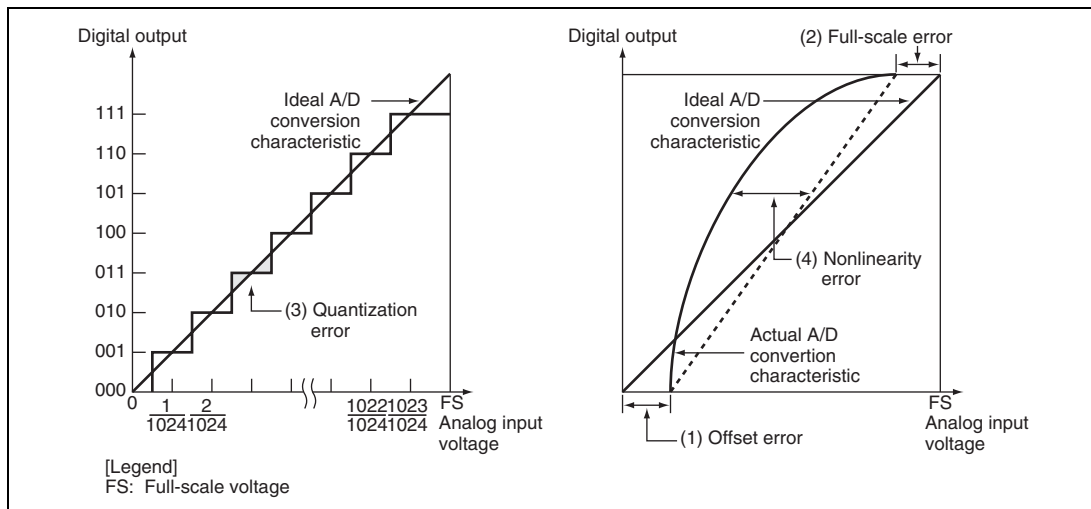

Figure 17.7 Definitions of A/D Conversion Accuracy
These four error quantities are explained below with reference to figure 17.7. In the figure, the 10 bits of the A/D converter have been simplified to 3 bits. Offset error is the deviation between actual and ideal A/D conversion characteristics when the digital output value changes from the minimum (zero voltage) B'000000000 (000 in the figure) to B'000000001 (001 in the figure)(figure 17.7, item (1)). Full-scale error is the deviation between actual and ideal A/D conversion characteristics when the digital output value changes from B'111111110 (110 in the figure) to the maximum B'111111111 (111 in the figure)(figure 17.7, item (2)). Quantization error is the intrinsic error of the A/D converter and is expressed as 1/2 LSB (figure 17.7, item (3)). Nonlinearity error is the deviation between actual and ideal A/D conversion characteristics between zero voltage and full-scale voltage (figure 17.7, item (4)). Note that it does not include offset, full-scale, or quantization error.